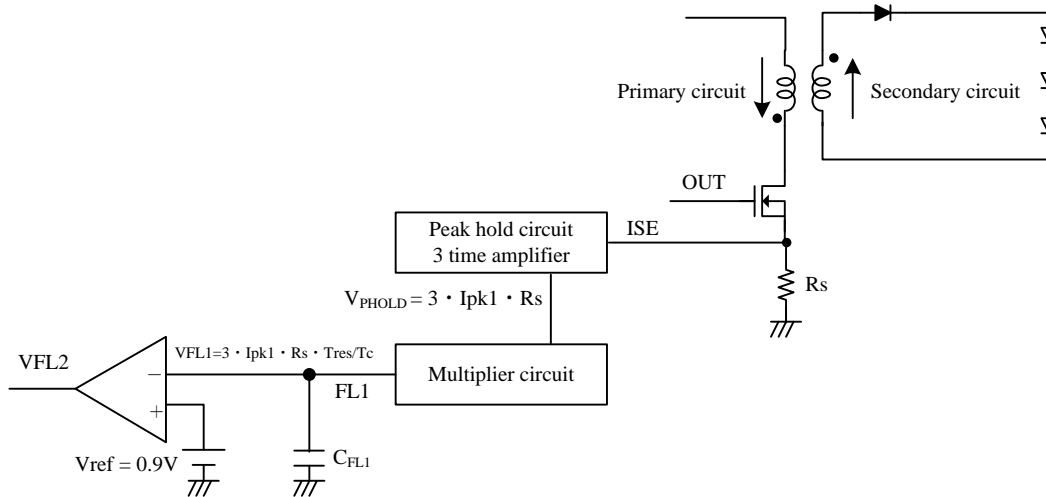

Figure 6.3 Block diagram relating constant current operation
IC operation, how to control LED current (output current) to be a constant value, is explained as below. Figure 6.3 shows block diagram relating constant current operation. As V_{ISE} is proportional to primary current and sensing resistance R_s , ISE terminal can monitor primary current. V_{PHOLD} is the output of peak hold circuit. It outputs the peak value of V_{ISE} every switching cycle, shown by equation (3).